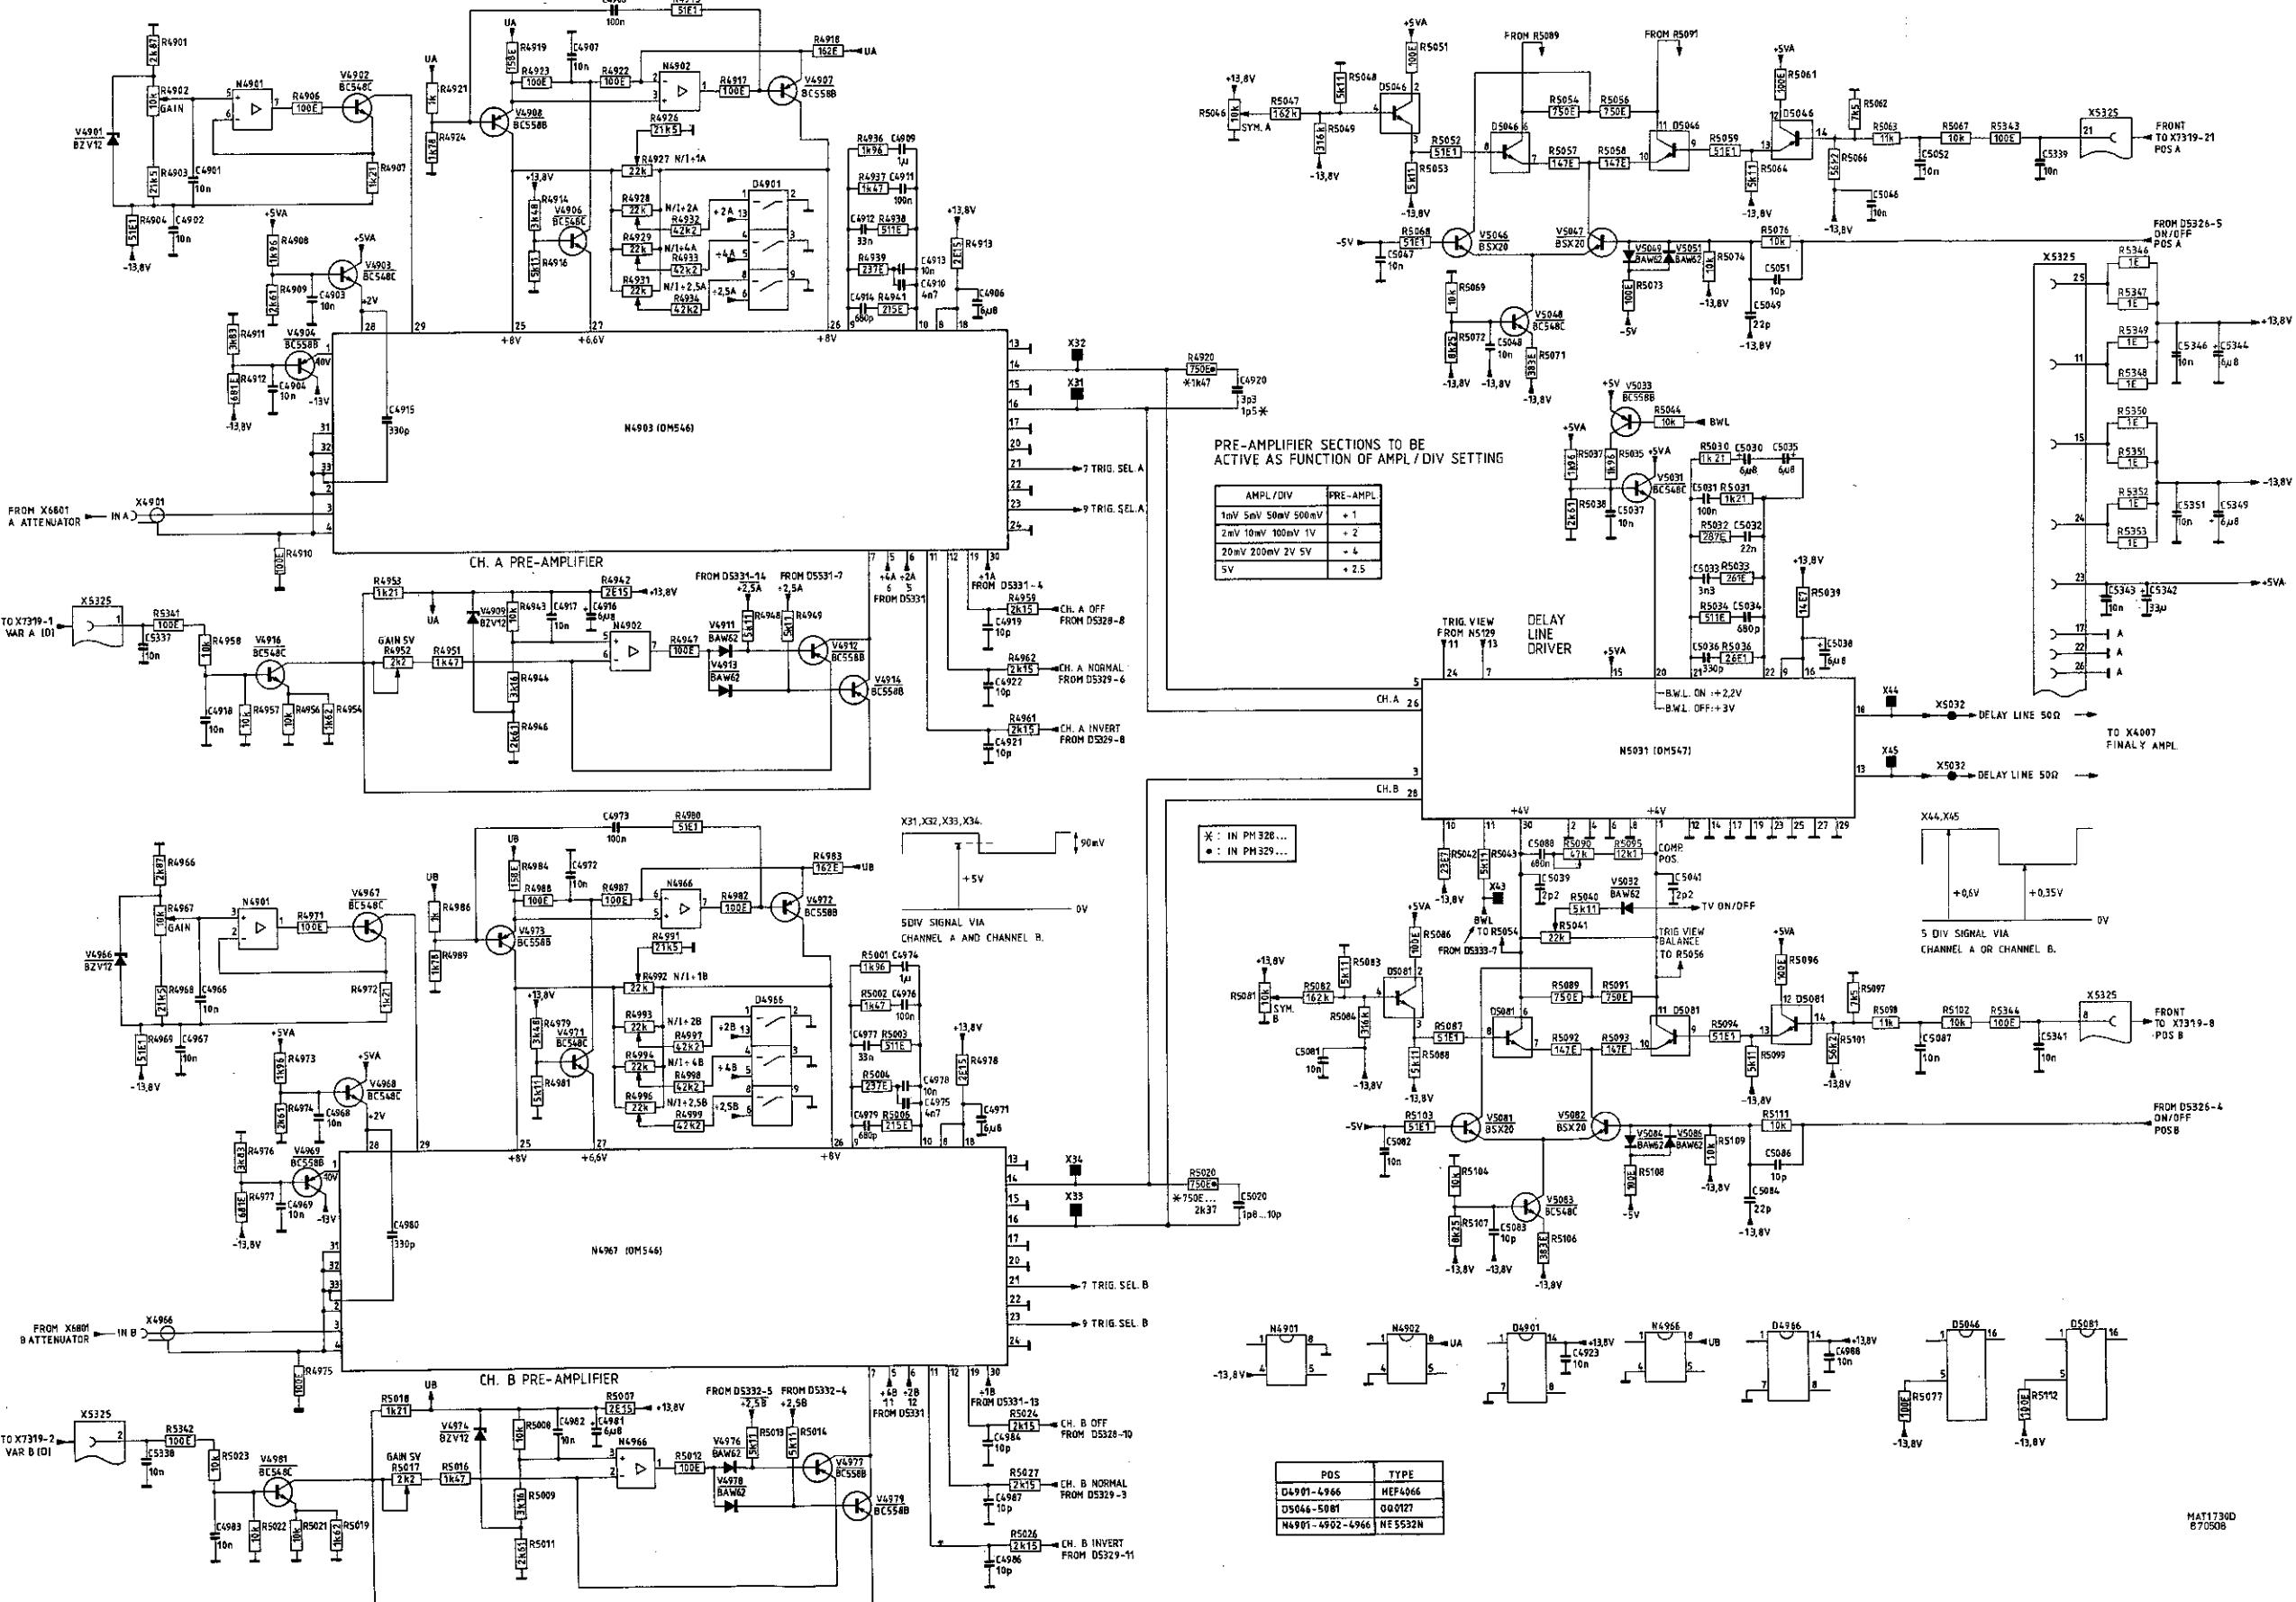

Fig.13.2. Signal unit, circuit diagram 1 (Channel A and B)
13.1. CIRCUIT DESCRIPTION OF DIAGRAM 1 (see fig.13.2.)